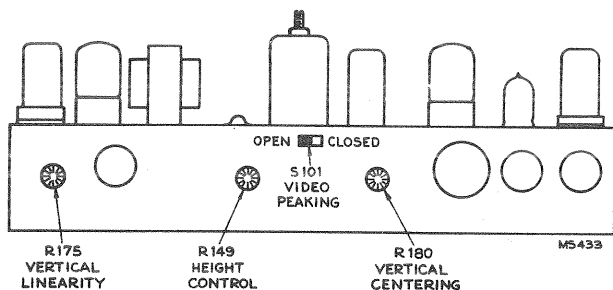

Figure 6—R-F, I-F Rear Chassis Adjustments
**VIDEO PEAKING SWITCH**—A video peaking switch is provided (see Figure 6) to permit changing the video response. Normally the switch should be left open. However, if the pictures from the majority of stations look better with the switch closed, the switch should be closed. If transients are produced on high contrast pictures, the switch should be left open.